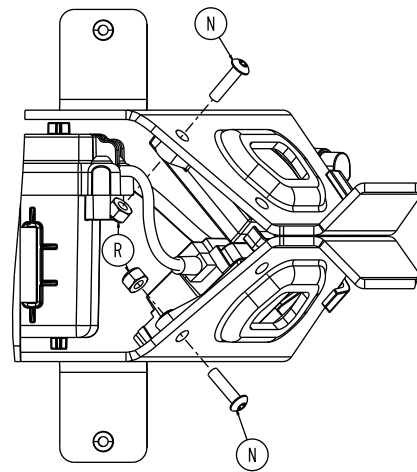

Figure 89 – Remove the wireless module screw and nut
25. Using a T25 Torx driver and a 3/8" combination wrench, remove the button head cap screw (N) and Fiberlock nut (R) that secure the wireless module, if equipped, and the NFMIC module to the cot, if equipped (Figure 89). Save the screw and nut.